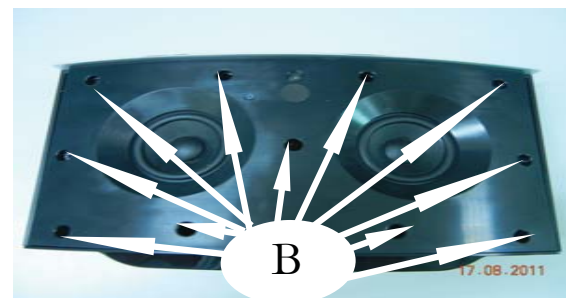

Figure 4
- 3) lossen 11 screws "B" as shown in figure4